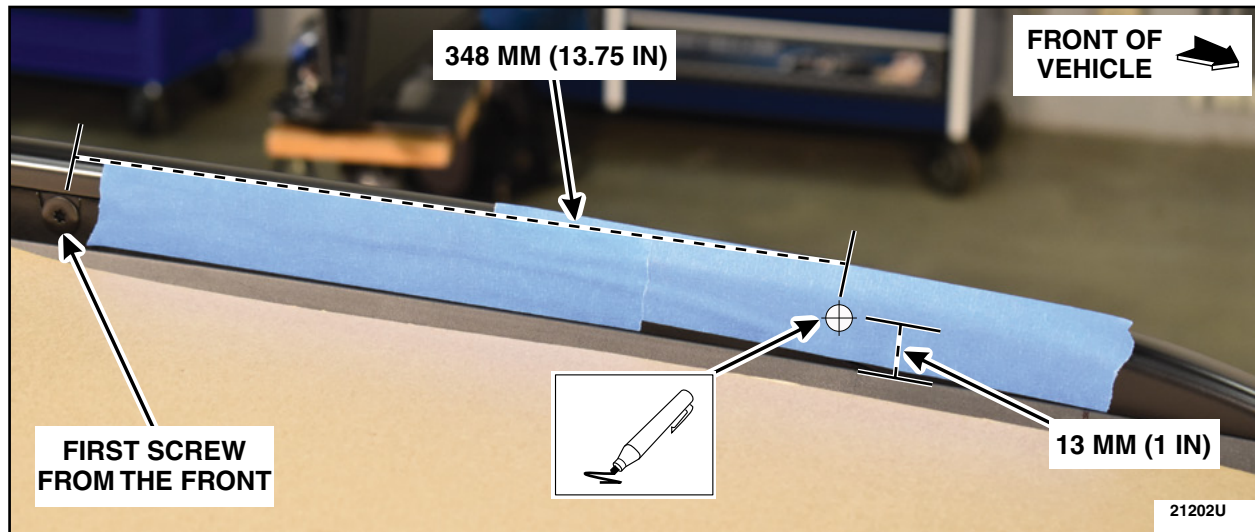

FIGURE 18
7. From the first screw from the front, measure 348 mm (13.75 in) from the screw towards the front of the vehicle and up 13 mm (.5 in) from the top of the roof rail base. Mark the measurement on the tape. See Figure 18.